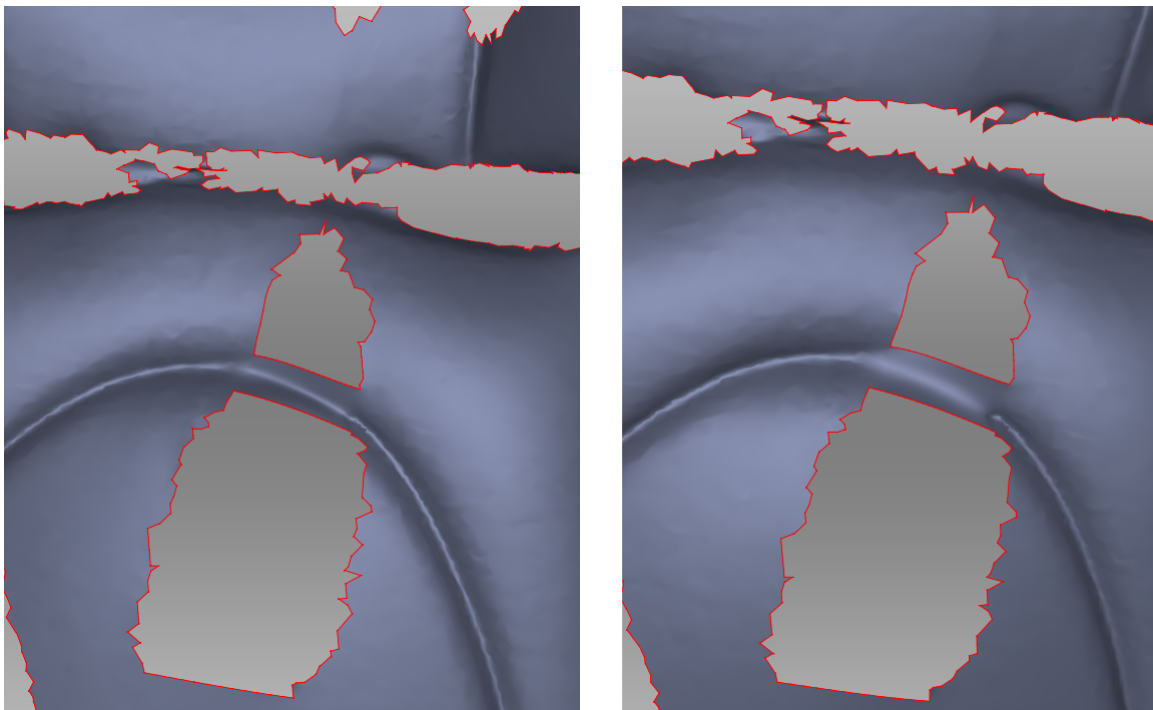

Figure 89: Small smoothness values on left and maximum on right.
- Use small or medium values of the *Bridge smoothness* slider (Figure 89).